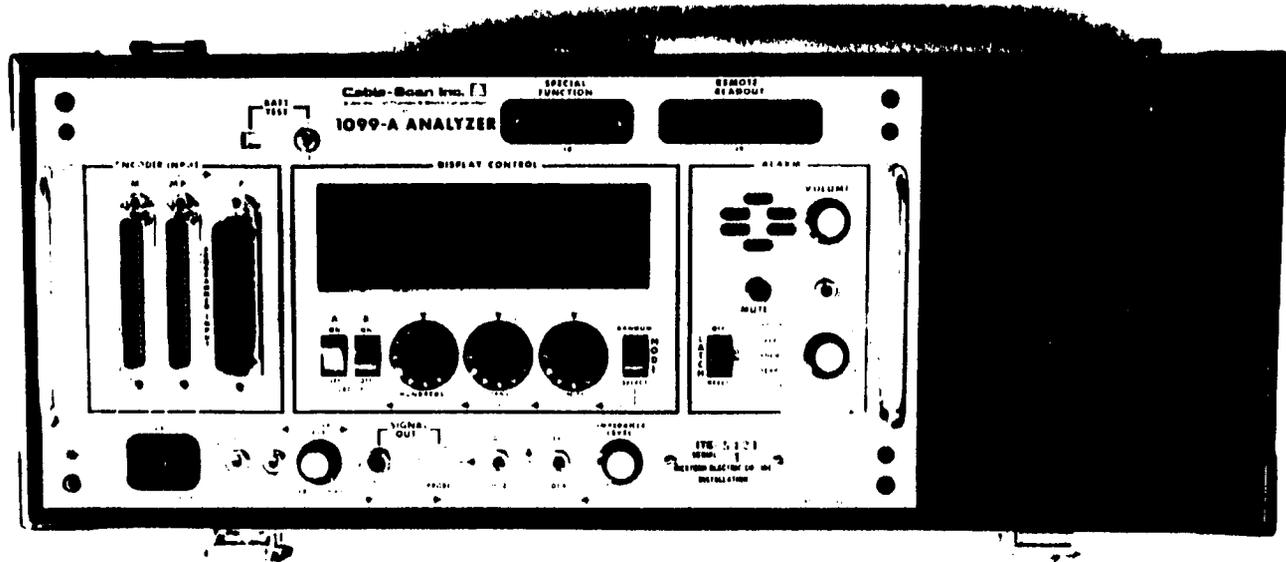

FIG. 1 ITE-5421 ANALYZER
2.2 ITE-5421 Analyzer (Figure 1)
2.24 Signal Control Section (Area D of Figure 1) is located at the lower center area of the Analyzer faceplate.